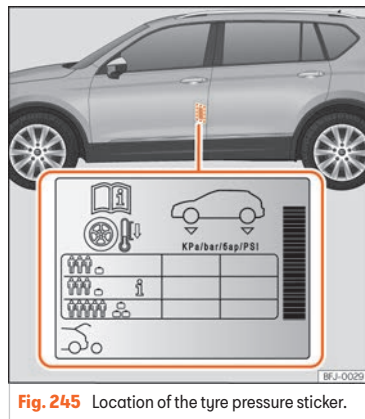

Fig. 245 Location of the tyre pressure sticker.
- Adjust tyre pressure to the load being carried by the vehicle »»» Fig. 245.
The values of the tyre pressure are shown on the sticker label located on the read frame of the front left door >>> Fig. 245.
The tyre pressure must be adjusted according to the load the vehicle is carrying. If the vehicle is going to be fully loaded, increase the tyre pressure to the maximum load value shown on the sticker label >>> Fig. 245.
In the case of a minimised temporary spare wheel (125/70 R16 or 125/70 R18) inflate to a pressure of 4,2 bar as indicated on the tyre pressure label >>> Fig. 245.
Depending on the vehicle, tyre pressure can be adjusted to medium load to improve driving comfort [tyre pressure **i** >>> Fig. 245]. When driving with comfort tyre pressure fuel consumption may increase slightly.
- The driver is responsible for ensuring that all of the vehicle tyres are correctly inflated to the right pressure. The recommended tyre pressure is indicated on the label >>> Fig. 245.
- Tyre pressure should be that indicated on the label when the tyres are cold at all times >>> Fig. 245.